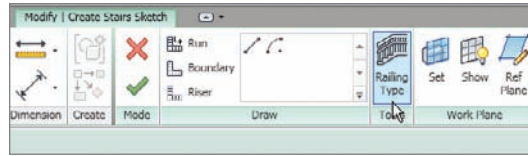

FIGURE 10.10 Click the Railing Type button.
1. On the Modify | Create Stairs Sketch tab, click the Railing Type button, as shown in Figure 10.10.